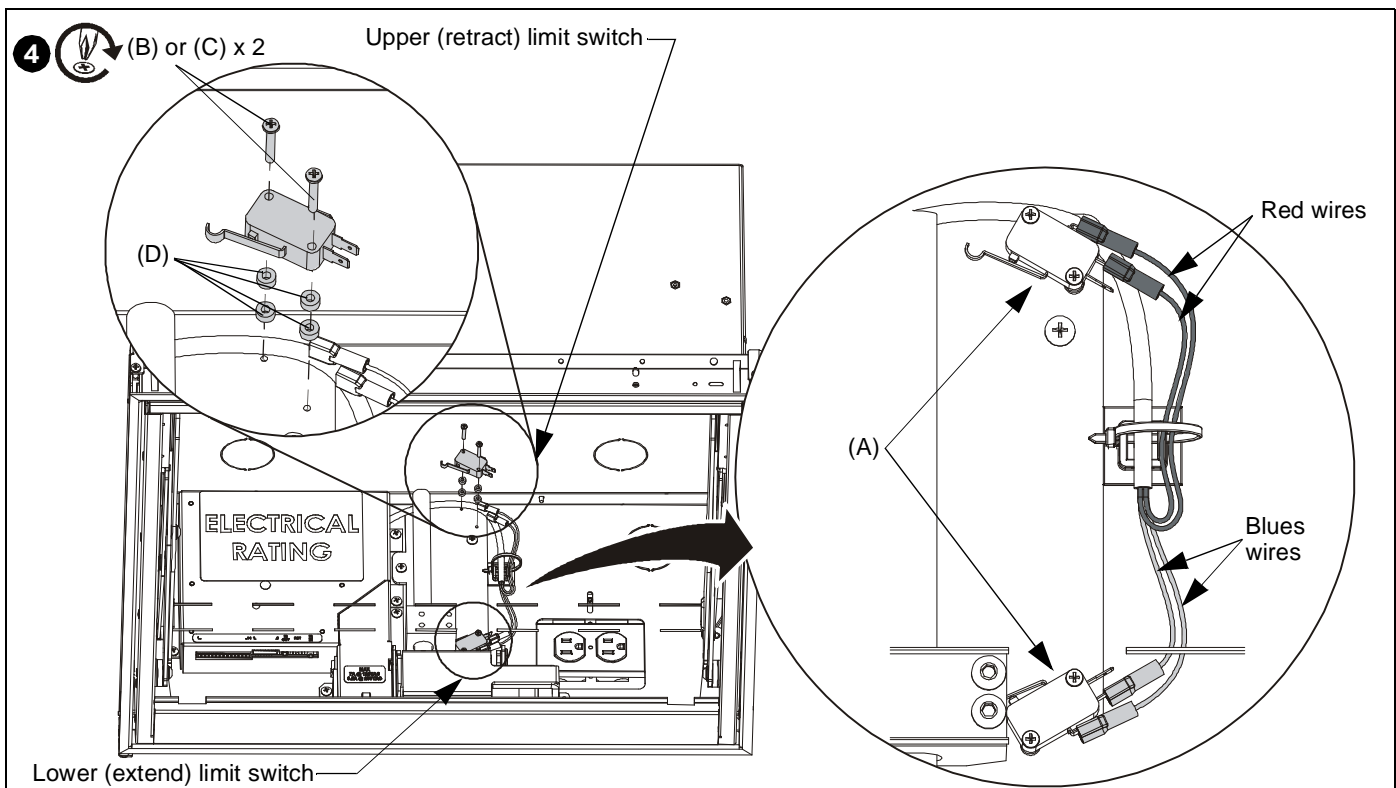

Figure 5
2. Remove two screws and spacers from limit switch (4 spacers from upper limit switch, **OR** 2 spacers from the lower limit switch). (See Figure 5)
4. Install new limit switch (A):
- For upper limit switch: Use two 04-40 x 3/4" Phillips screws (C) and **FOUR** spacers (D). (See Figure 5)
- For lower limit switch: Use two 04-40 x 5/8" Phillips screws (B) and **TWO** spacers (D). (See Figure 5)
5. Attach wires to new limit switch (A), being careful to attach each to correct switch.
- Red wires [**dark grey in Figure 5**] attach to retract (upper) limit switch (See Figure 5)
- Blue wires [**light grey in Figure 5**] attach to extend (lower) limit switch. (See Figure 5)
**IMPORTANT !** : Be sure that red **OR** blue wires are connected to correct tabs on the replacement limit switch (A). (See Figure 5)